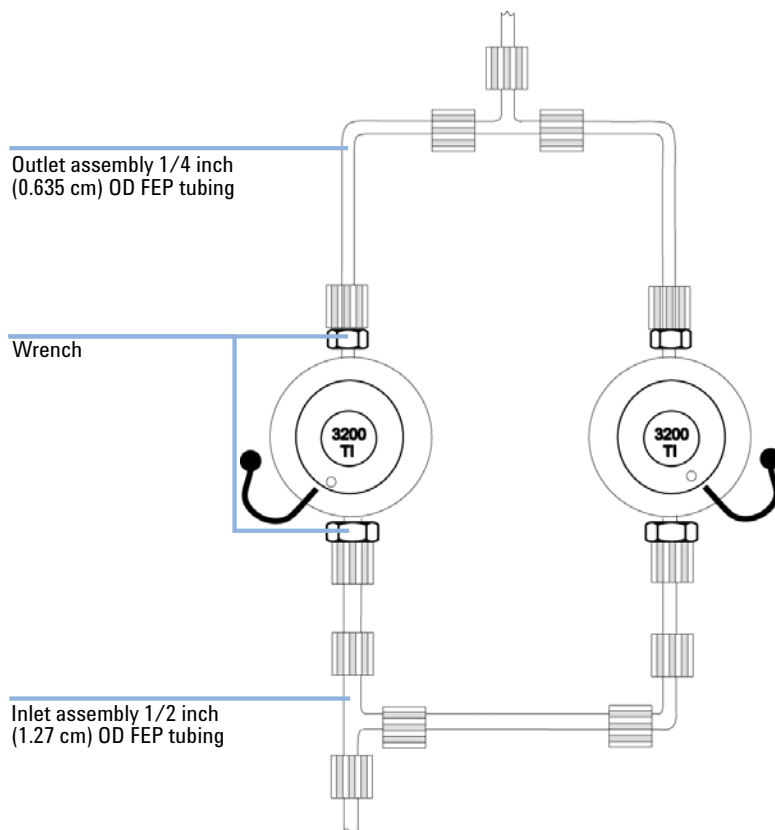

Figure 8 Connections for 3.2 L pump heads
- 2 Attach the inlet and outlet tube assemblies (see Figure 8 on page 55).